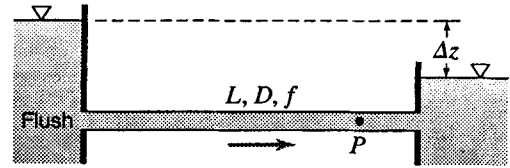

Figure P8.60
- 8.61 A 320-mm-diameter pipe ($f = 0.025$) 140 m long runs from one reservoir to another, both ends of the pipe being under water (Fig. P8.60). The intake is square-edged. The difference between the water surface levels of the two reservoirs is 36 m. Find (a) the flow rate, and (b) the pressure in the pipe at a point 95 m from the intake, where the elevation is 39 m lower than the surface of the water in the upper reservoir.